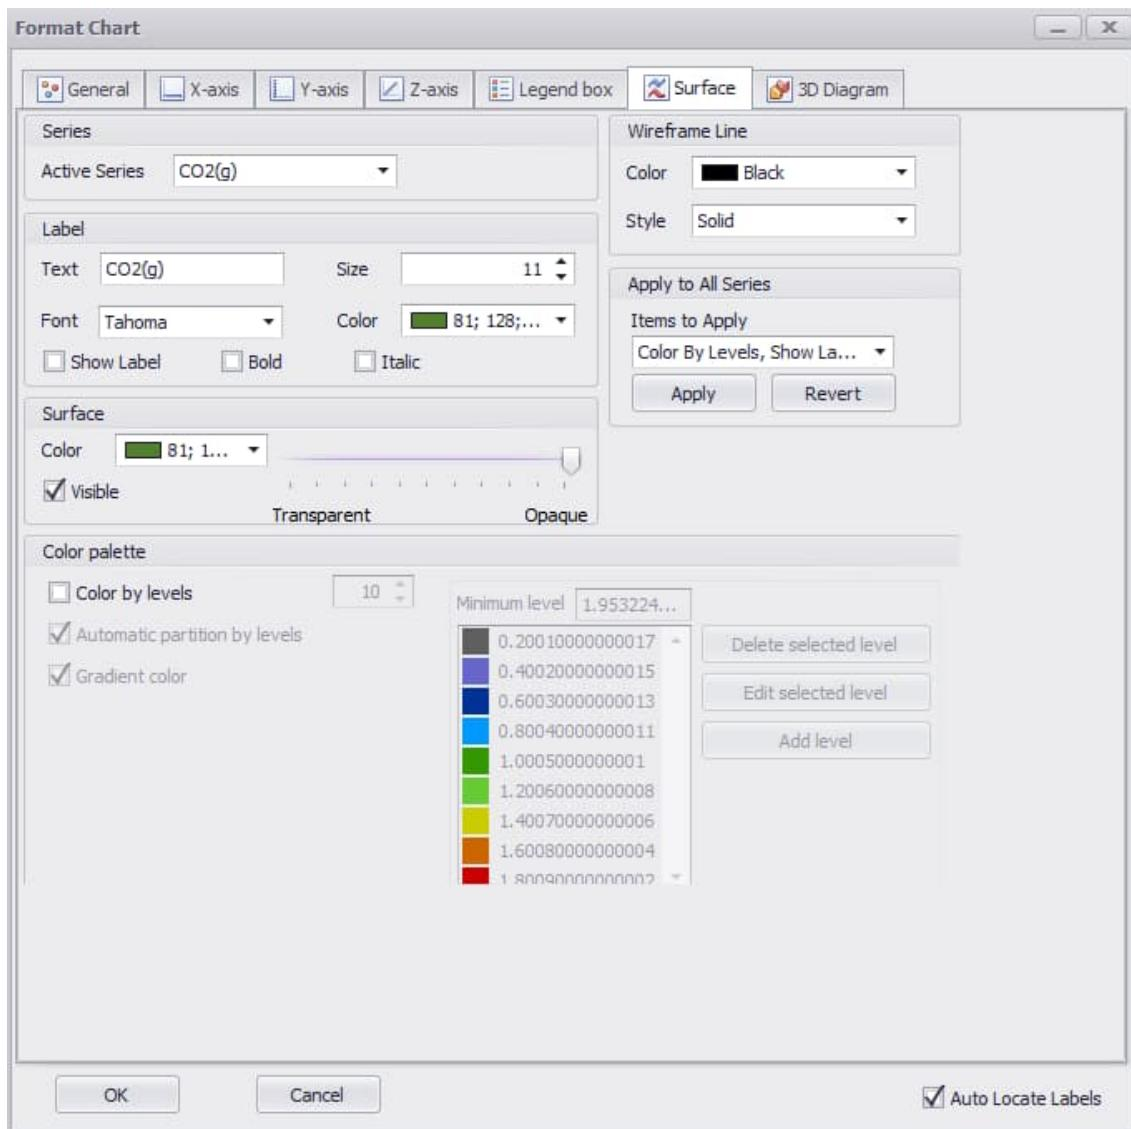

Fig. 22. Changing 3D surface specifications.
3. The walls in a 3D diagram may be changed by selecting **Format 3D Diagram** sheet. User can change label, surface, wire frameline, etc. see **Fig. 22**.